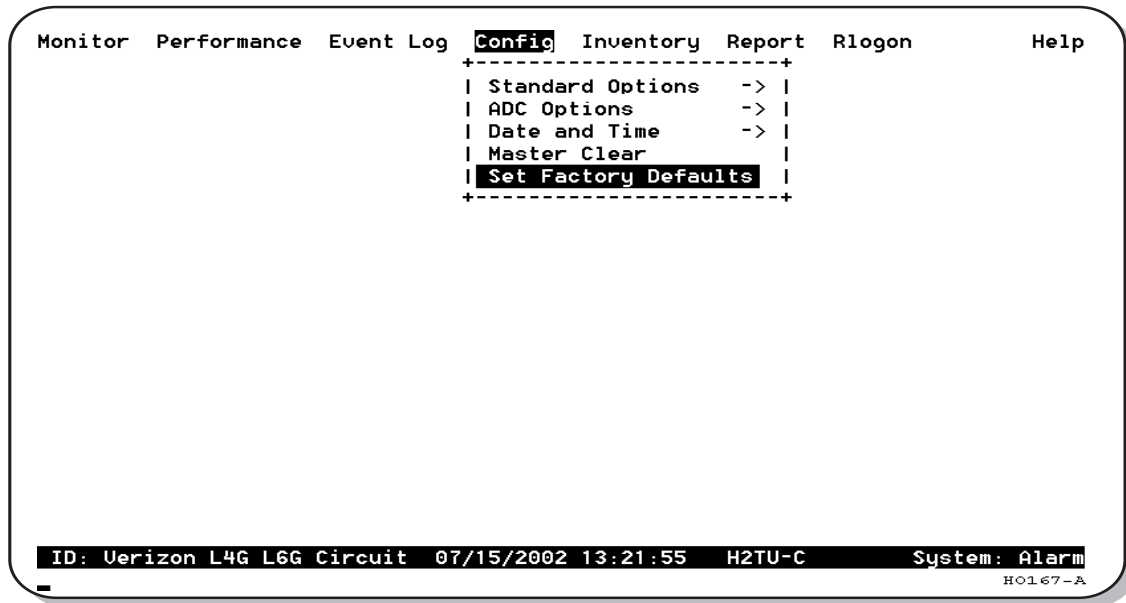

Figure 10. Config Menu - Set Factory Defaults
- 2 Use the **↑** and **↓** arrow keys to select **Set Factory Defaults** (see Figure 10), then press **ENTER**.